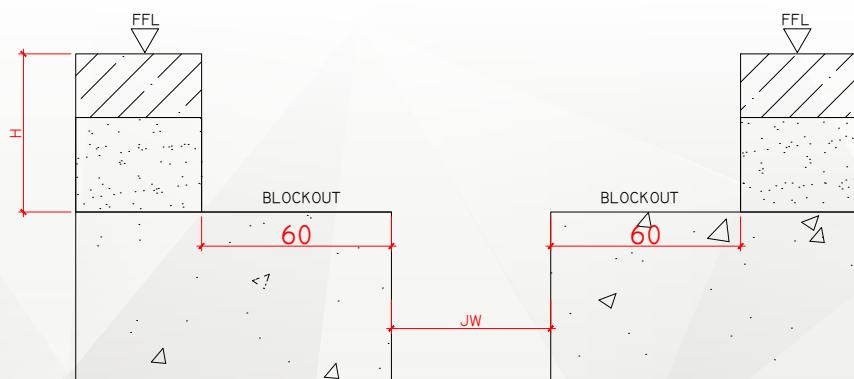

Figure 1.
3. The base of the blockout should be leveled, flatted and paralleled. The minimum width of the blockout is 60mm. See figure 1 below for the blockout details;